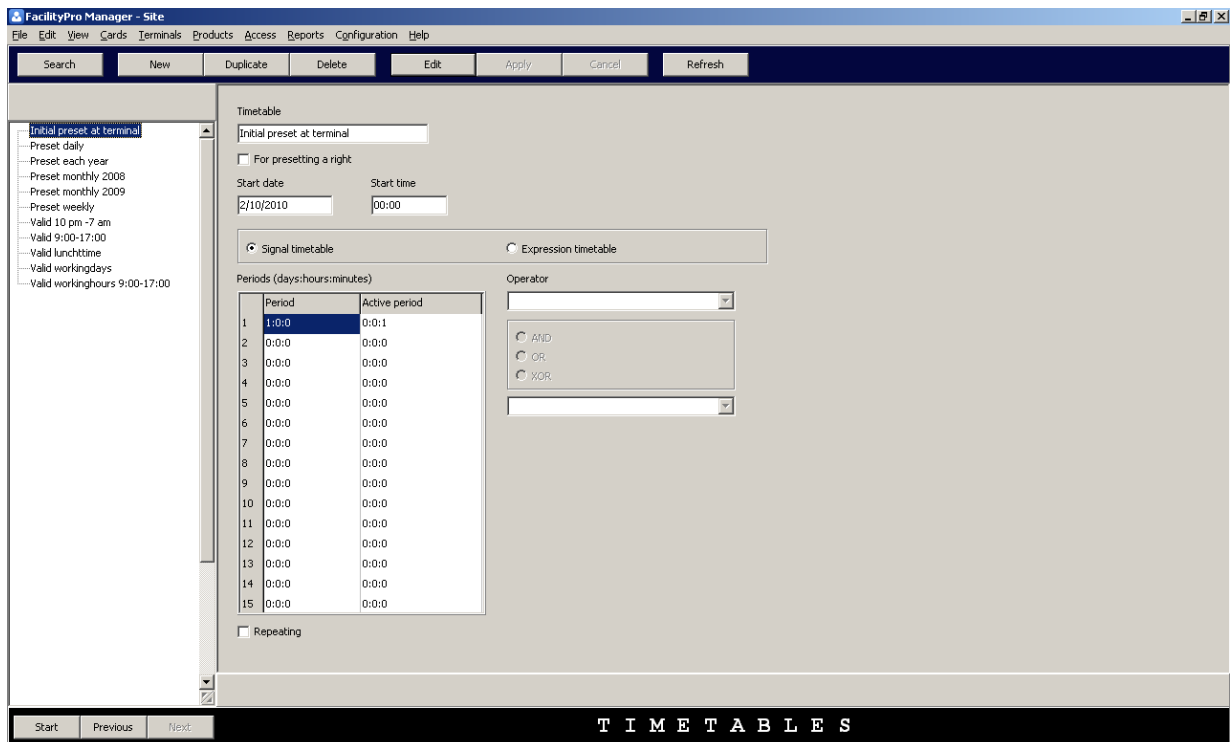

Figure 8-20 The timetables data screen
2. Choose **Timetables**. You will see the timetables data screen (Figure 8-20).